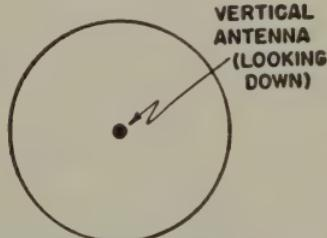

FIG. 6-4.—Directional pattern of a vertical antenna.
*Ans.* Figure 6-4 illustrates the directional pattern of a vertical antenna.